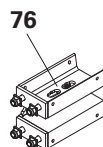

Fig. D1.04
The VARIO Extension (76) is a screwed connection for subsequent construction of a VSRZ Steel Waler (77) or as bracing. (Fig. D1.04 + D1.05)